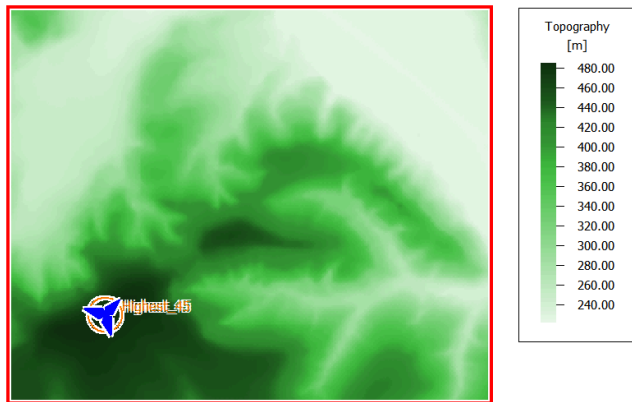

Figure 139: Location of the first cellular base station. The base station is located on the highest hill.
4. Place the cellular base station with a left-mouse click on the highest hill in the model, at or near (X, Y) = (513628, 5400187), as indicated in Figure 139.